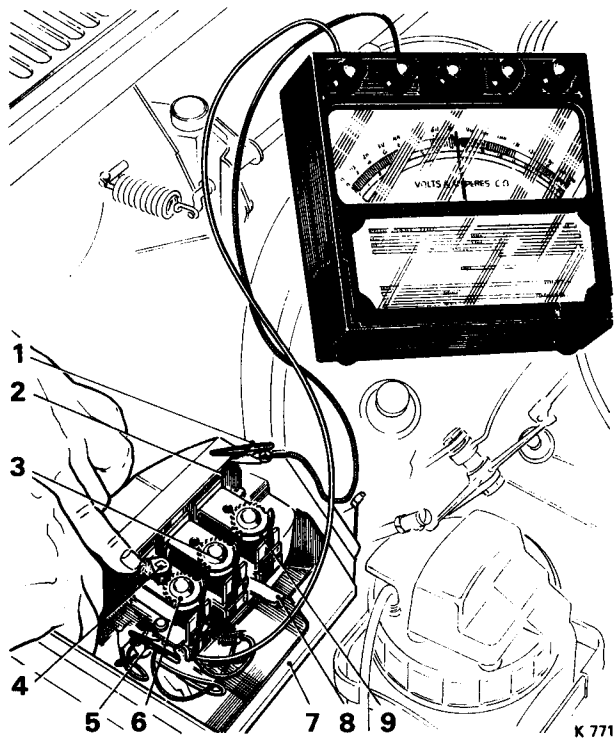

FIG. M44 CHECKING VOLTAGE REGULATOR SETTING
1. Withdraw the cables from the control box terminal blades marked 'B'. Alternatively, insert a strip of paper between the cut-out contacts as shown in Figure M44.